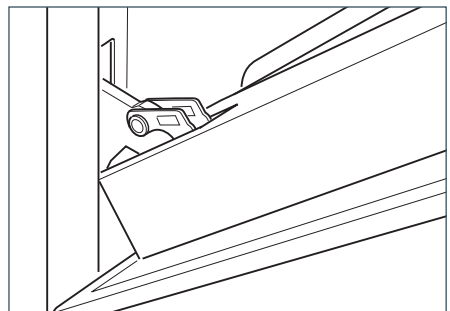

Fig.85e
- 5 Withdraw the hinge hooks from their location following arrow "C" (Fig. 85e).